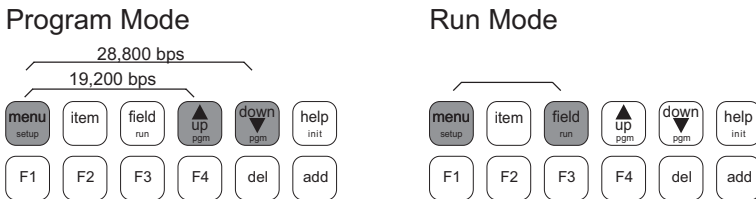

Figure 4-1. 2x6 Keypad Mode Settings
2. With power off, hold down the appropriate keys on the keypad and apply power. Refer to Figure 4-1 for the appropriate keypress combinations.
Figures 4-1, 4-2, and 4-3 illustrate keypad and jumper settings for run and program modes for different PK2200 configurations. The keypress combination for the 3x4 keypad will work only with the PK2240 model. The keypress combination for the 2x6 keypad will work with any model with a 2x6 keypad. If programming at normal 19,200 bps, then press the “menu setup” and “up pgm” keys. If programming at 28,800 bps, then press the “menu setup” and the “down pgm” keys. You may instead set the programming baud rate with jumpers on JP4.